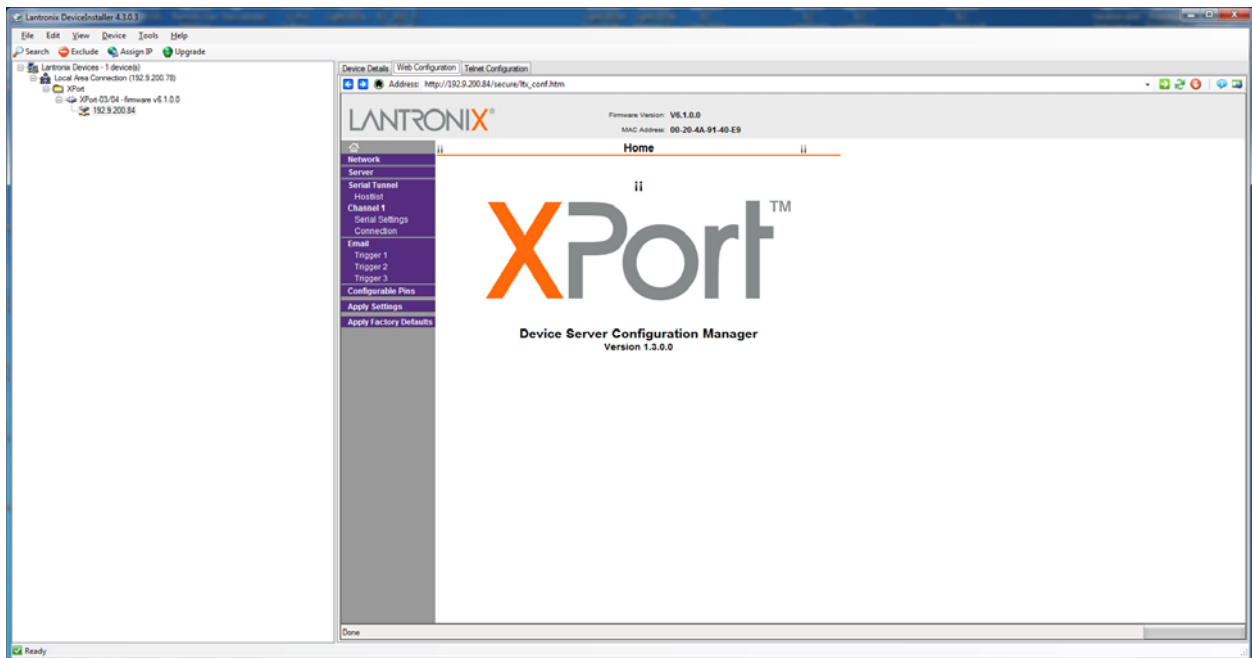

Figure 2
- Expand the tree in the left screen for the device that requires adjustment, click on the “Web Configuration” tab, and press the green arrow button “Navigate To:” on the right side of the device window. When the Windows Security prompt appears, just click “OK” to enter the configuration manager. It should appear as shown in Figure 2. You can also use a browser once you know the IP address to connect to the device.